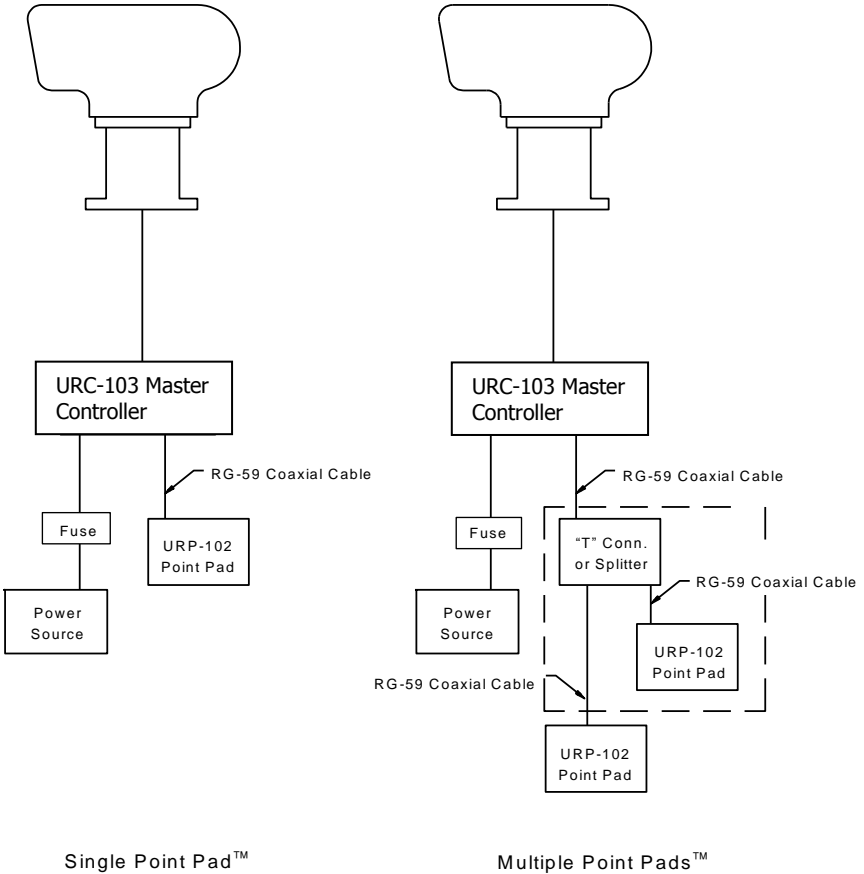

Figure 2- Point Pad™ Connection Block Diagram
Additional Point Pads™ (up to three (3) pads) may be used with one (1) Master Controller. A standard "T" connector or RG-59 television type "splitter" is used for each additional Point Pad™ (see Figure 2). Limit the total length of all coax cable used to 300 feet.